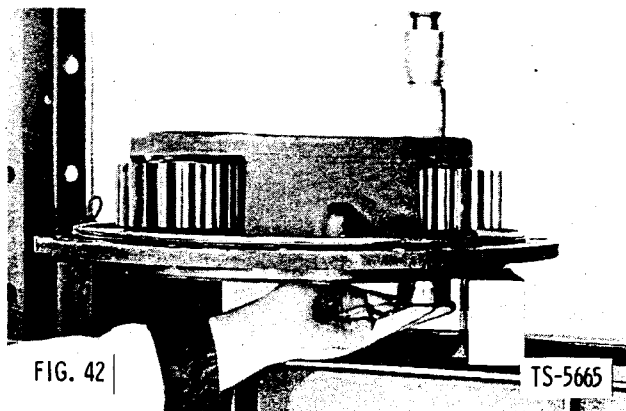

FIG. 42
1. Place planet carrier assembly in press as shown and press out pinion shaft (Fig. 42). Take care to catch pinion shaft lock ball released as shaft is pressed out.